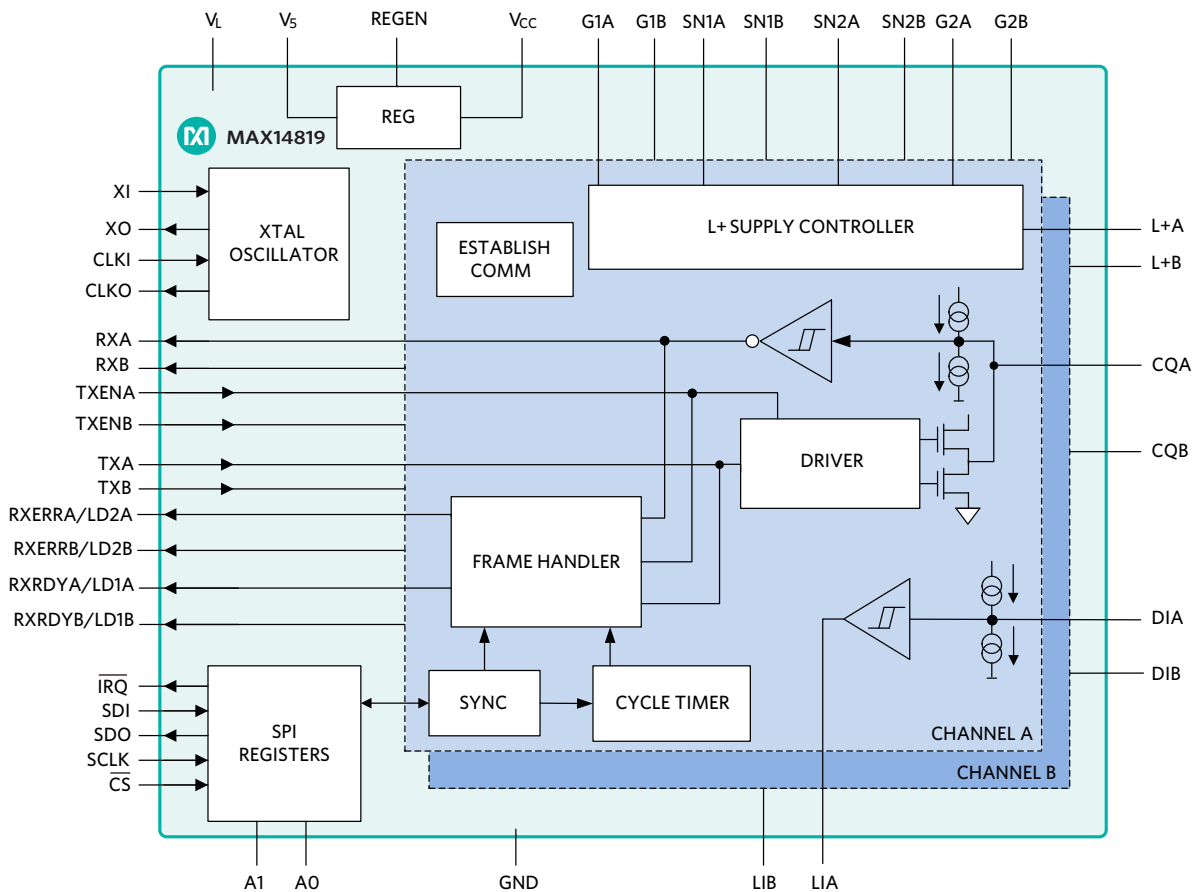

Figure 47. MAX14819 Dual IO-Link Master Transceiver
The **MAX14819** low-power, dual-channel, IO-Link master transceiver with sensor/actuator power-supply controllers (Figure 47) is fully compliant with the latest IO-Link and binary input standards and test specifications, IEC 61131-2, IEC 61131-9 SDCI, and IO-Link 1.1.3. This master transceiver also includes two auxiliary Type 1/Type 3 digital input (DI) channels. The MAX14819 is configurable to operate either with external UARTs or using the integrated framers on the IC. To ease selection of a microcontroller, the master transceiver features frame handlers with UARTs and FIFOs. These are designed to simplify time-critical control of all IO-Link M-sequence frame types. The MAX14819 also features autonomous cycle timers, reducing the need for accurate controller timing. Integrated communication sequencers also simplify wake-up management.